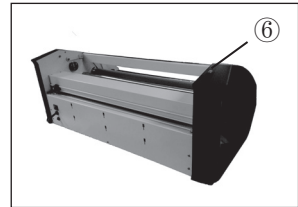

Figure 6
Emergency Switch (6) - To stop the machine in an emergency situation. (Fig. 6)
Refer to Figure 6.